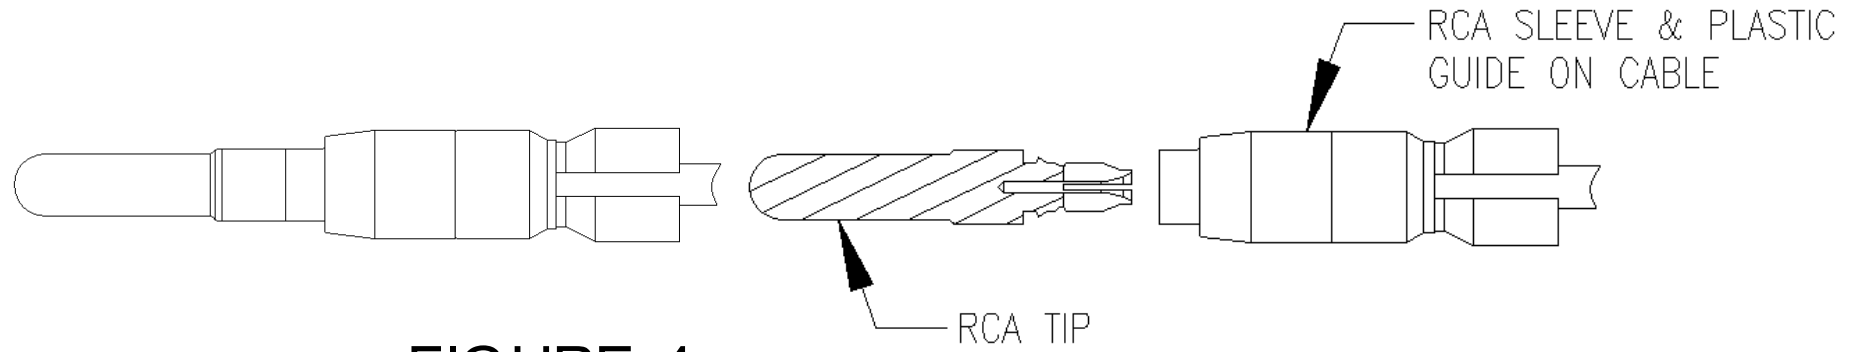

FIGURE 4
4) Holding the cable with sleeve & plastic guide firmly, insert the tip as shown in figure 4